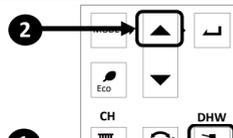

Fig. 9. "Up" and "DHW" Buttons
- Press and hold the "DHW" button for two seconds and then the **▲** (Up) button simultaneously (Fig. 9).